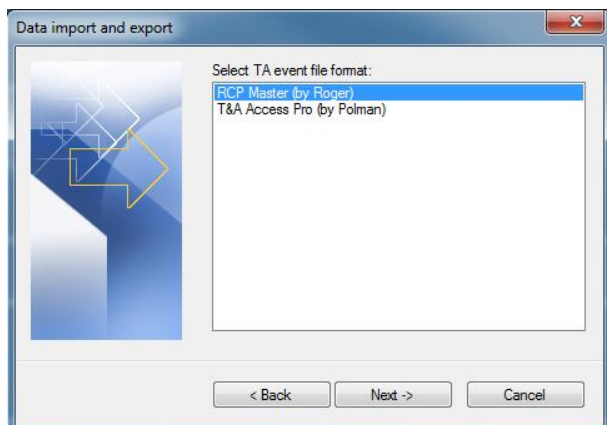

Figure 17. Data Import and Export Wizard — step 2
3. Select the appropriate T&A events file format (Roger PR Master 4) — figure 17.